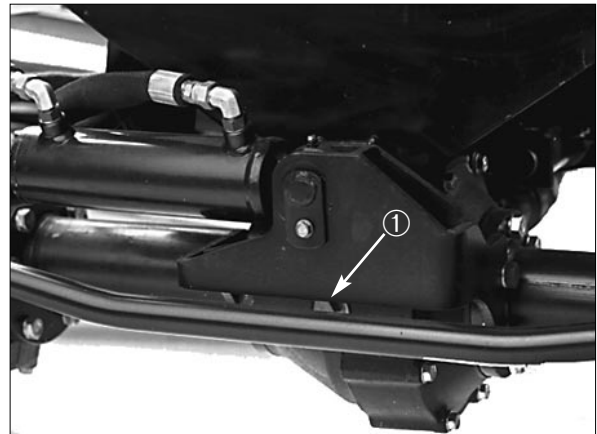

Figure 7
2. Remove a check plug from each end of axle and make sure the lubricant is up to bottom of the hole. If the level is low, remove a mounting bolt above each end plug and add enough lubricant to bring the level up to the bottom of the hole (Fig. 7).